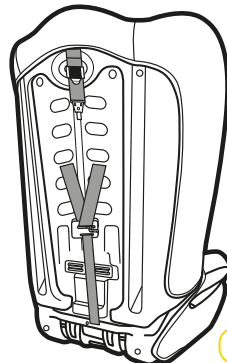

Figure 1
Step 1: From the rear of the restraint, remove each shoulder harness through the gates in the "G" connecting plate (see Figures 1, 2, 3 & 4).
Step 1: Place the restraint in desired upright or reclined position, with the back against the back of the vehicle seat, directly in line with the anchorage point (refer Figure 1).